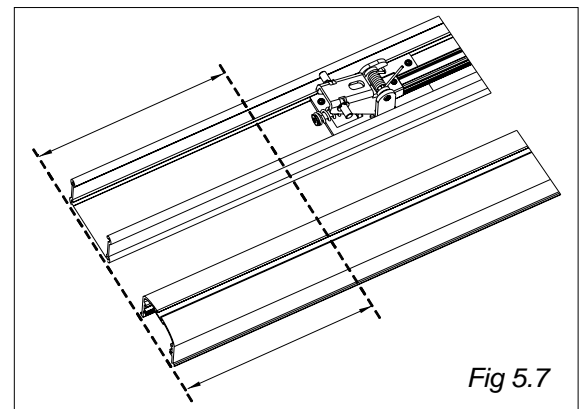

Fig 5.7
- 7) Measure distance and cut to the required length. Take care not to crush the extrusions when clamping. Ensure cut is at right – angle to base. (See Fig 5.7)